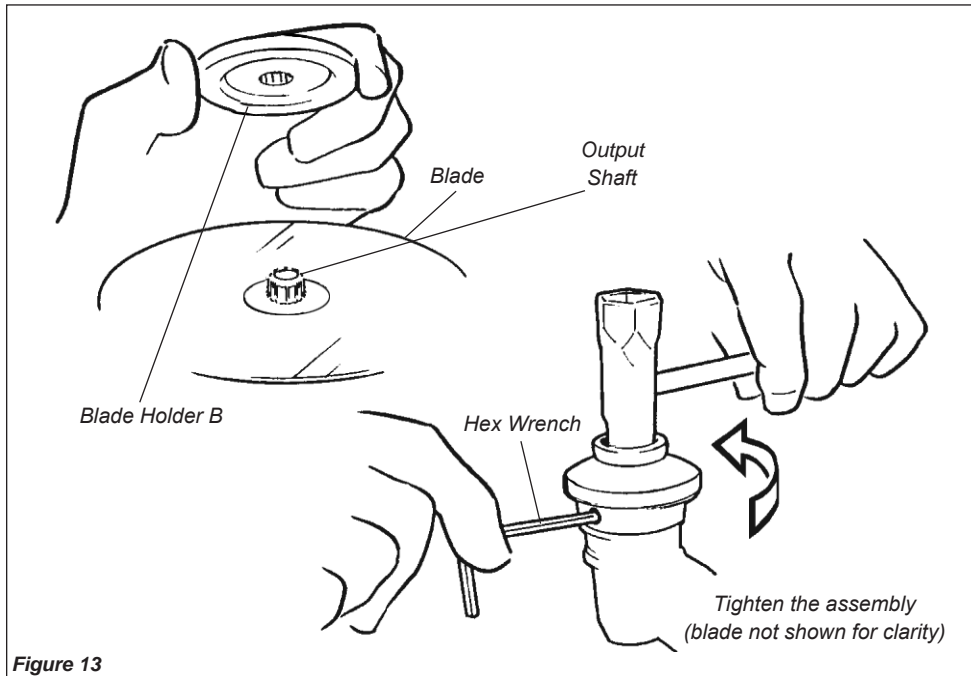

Figure 13
3. Install blade holder B on the output shaft. See Figure 13.